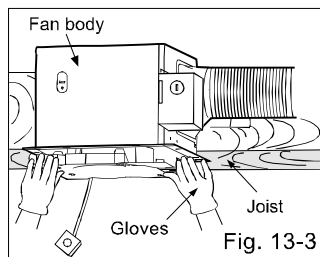

Fig. 13-3
- Insert the blower into the fan body. (Fig. 13-3)